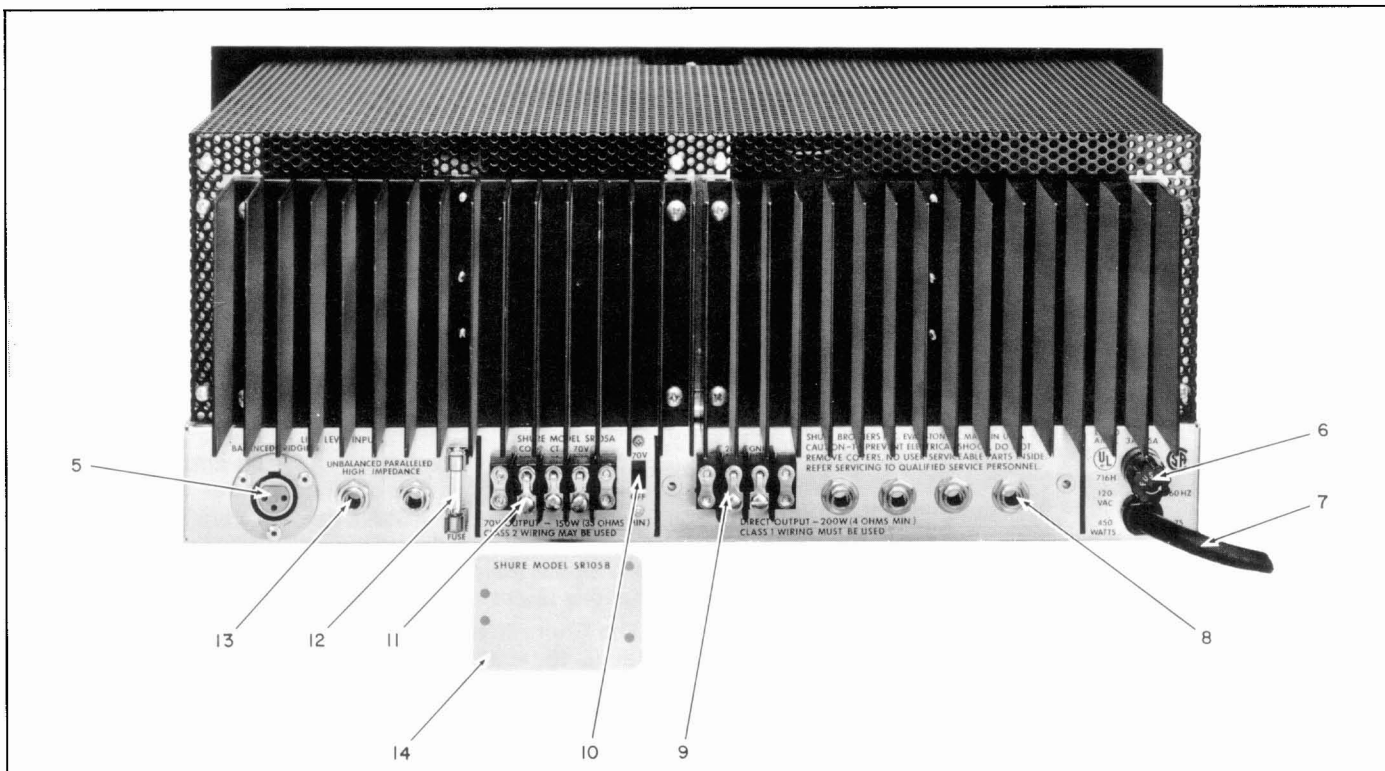

FIGURE 2. SR105 POWER AMPLIFIER REAR PANEL
Three LINE LEVEL INPUTS Connectors are located on the rear panel of the Amplifier (see Figure 2, Page 2). A professional, three-pin, female audio connector (5)* provides a balanced bridging, high-impedance input connection. Unbalanced, high-impedance input connections are provided by two standard ¼" phone jacks (13) wired in parallel.
Four standard 1/4" phone jacks (8) and one two-terminal barrier strip (9) on the rear panel of the Amplifier provide direct-coupled speaker output connections (see Figure 2, Page 2). All connectors are wired in parallel and provide for simultaneous connection of a number of speaker systems. A three-terminal barrier strip (11), labeled 70V OUTPUT (SR105A Amplifier only), provides for connection to the 70-volt output of the Amplifier (see Figure 2, Page 2). This output is present only when the 70V-OFF Switch (10) is set to the 70V position.